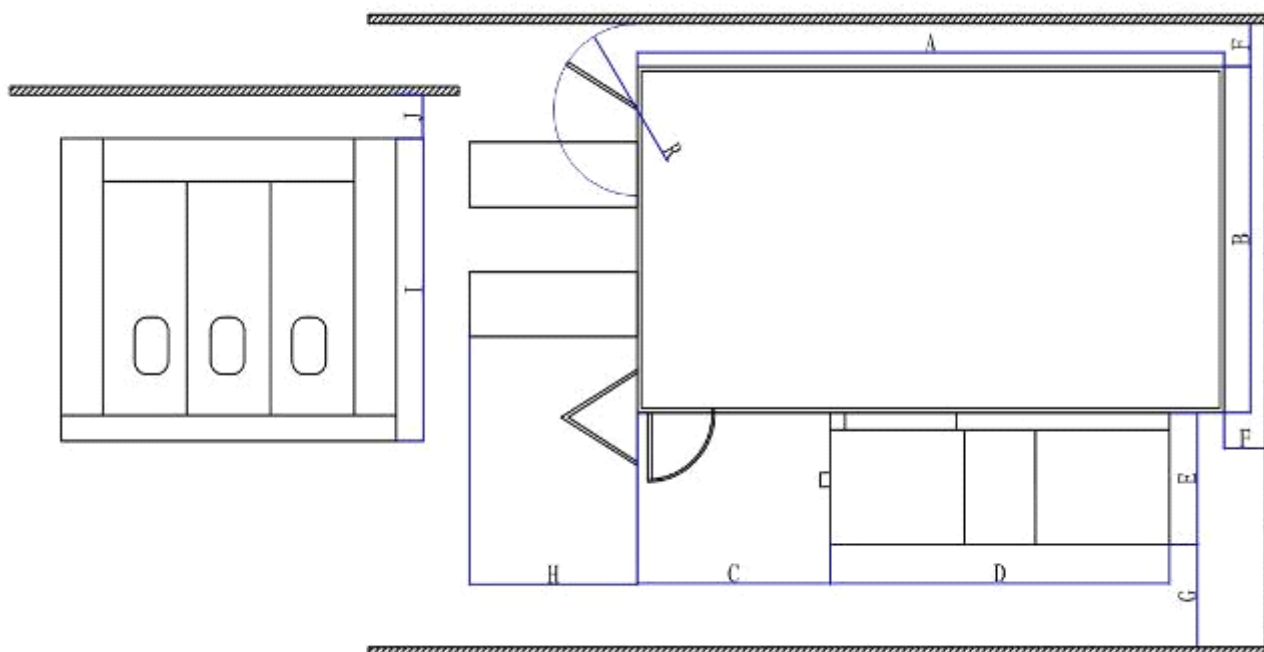

Fig. 3.1
4. For the correct function of the booth it is necessary that it has around it the minimum space as shown in Fig.3.1.